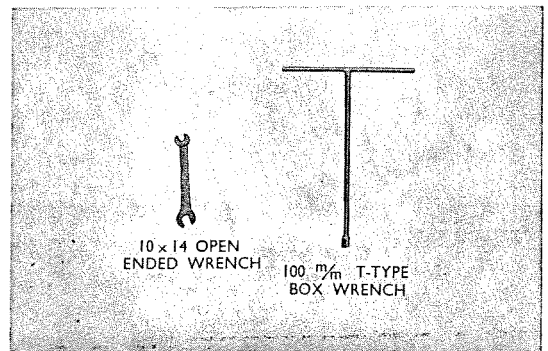

Fig. 4.42 Tools required for disassembly and assembly of air cleaner case seat
1. Tools required for disassembly and assembly of the air cleaner case and seat. (Refer to Fig. 4.42)